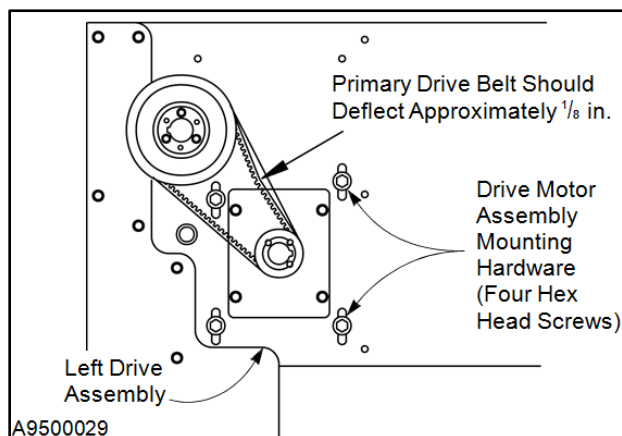

Figure 39
3. Loosen the four hex head screws securing the drive motor assembly to the left drive console. (See Figure 39.)